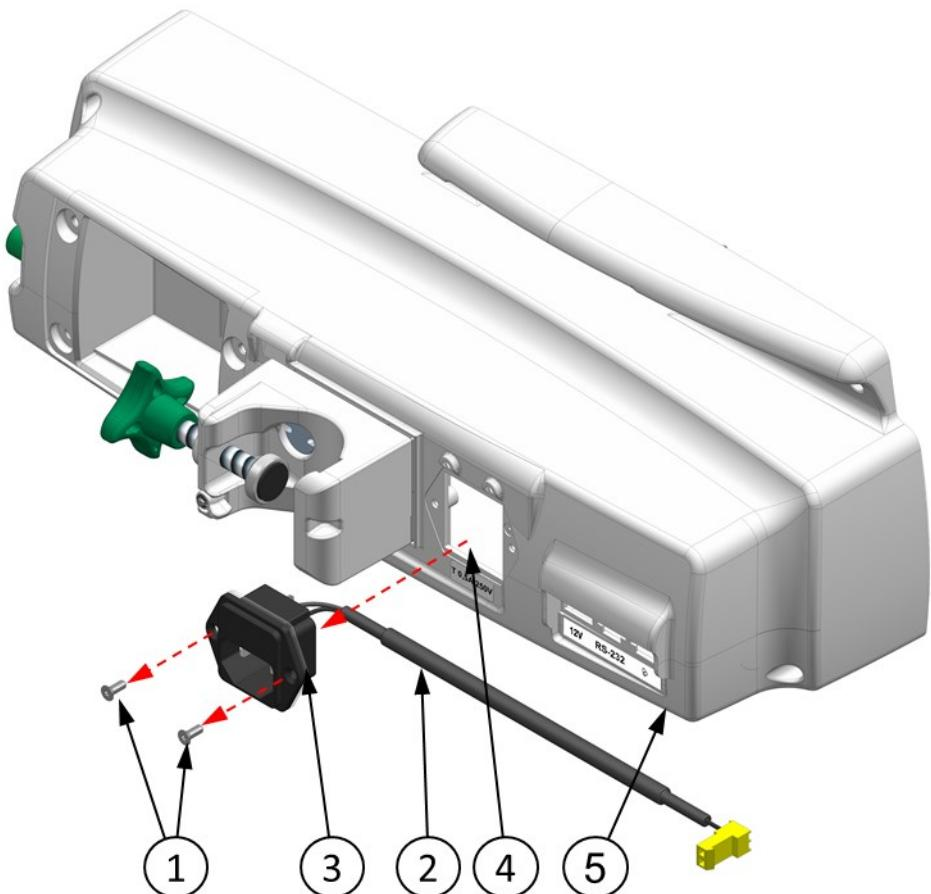

Fig. 79 AC cord removal/installation
2. Using a **TB-2** screwdriver, unscrew two **3x8 Screws for plastic** (1) as shown in Fig. 79.
3. Pull the **AC Cord** (2) out of the **Back case set**, paying attention to the **AC cord seal** (3) as shown in Fig. 79.
1. Insert the **AC cord gasket (3)** into the **AC cord slot** as shown in **Fig. 79**.
3. Using the torque screwdriver **TA-41** with **TA-43 bit** screw in two **3x8 screws for plastic (1)** as shown in **Fig. 79**.